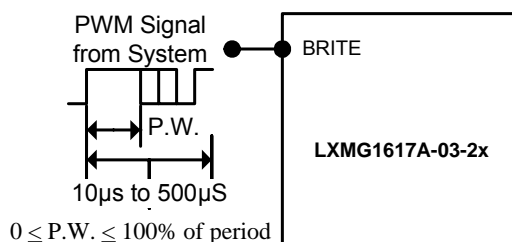

Figure 1A – PWM Brightness Control
- The brightness control may be a voltage output DAC or other voltage source, a digital pot or 500k manual pot. The inverter contains an internal 215k pull-up to 3V to bias the pot, it may be necessary to add a small value resistor in series with the ground side of the POT to set the lower threshold voltage above the absolute minimum dim level capability, especially when both SET pins are programmed low. A 3.3V Logic Level PWM signal from a micro-controller may also be used as shown in Figure 1A.